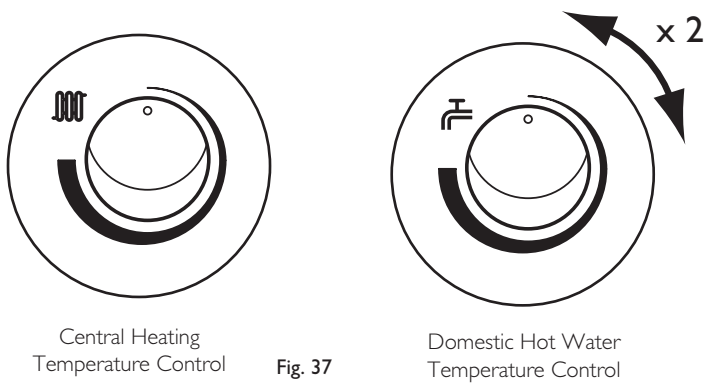

Fig. 37
3. Turn both temperature control knobs fully anticlockwise, then quickly turn the DHW temperature knob 1/4 clockwise twice and back fully anticlockwise (Fig. 37).